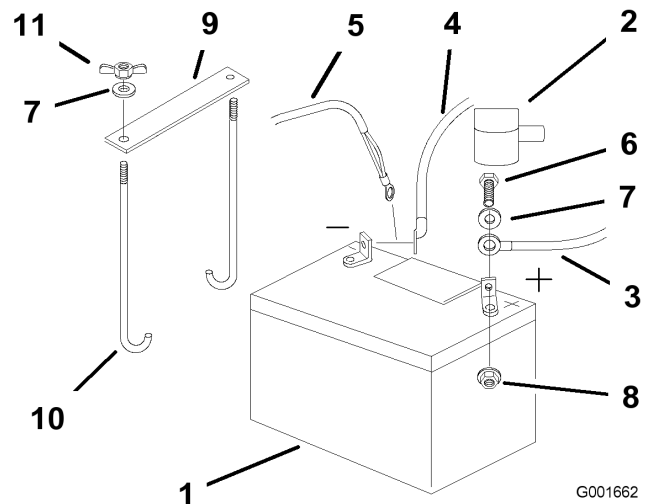

Figure 40
4. First disconnect the negative battery cable and ground wire from the negative (-) battery terminal (Figure 40).
5. Slide the red terminal boot off the positive (red) battery terminal. Then remove the positive (red) battery cable (Figure 40).
6. Remove both wing nuts (1/4 inch) securing the battery clamp (Figure 40).
1. Position battery in the tray with the terminal posts toward the engine (Figure 40).
4. Secure the cables with 2 bolts (1/4 x 3/4 inch), 2 washers (1/4 inch), and 2 locknuts (1/4 inch) (Figure 40).
6. Secure battery with J-bolts, hold down clamp and 2 washers (1/4 inch), and 2 wing nuts (1/4 inch) (Figure 40).